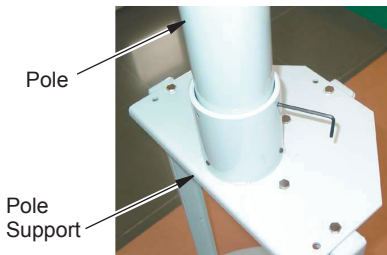

Figure 3 - Pole to Pole Support
5. Attach pole to pole support (Figure 3). Place pole into pole support center connector. Tighten six set screws with hex allen wrench supplied with heater. **Note:** Set screws are threaded inside post support.